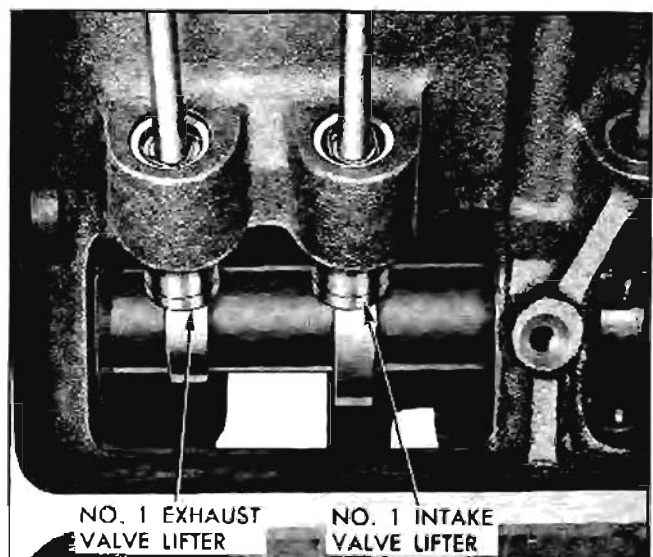

Fig. 6-61 Relationship of Lifters and Cams when Cylinder No. 1 is in Firing Position
a. Turn crankshaft to firing position of number one cylinder (number one exhaust and intake valve lifters both on base circles of their cams (Fig. 6-61) and timing mark on harmonic balancer indexed with pointer). **NOTE:** Number one intake must have just closed.